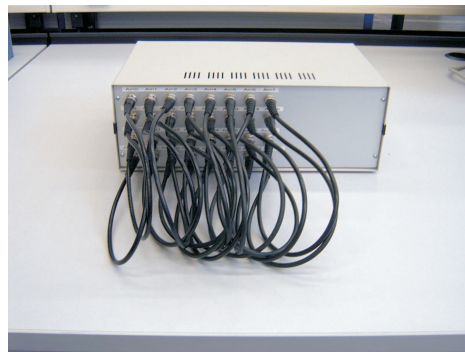
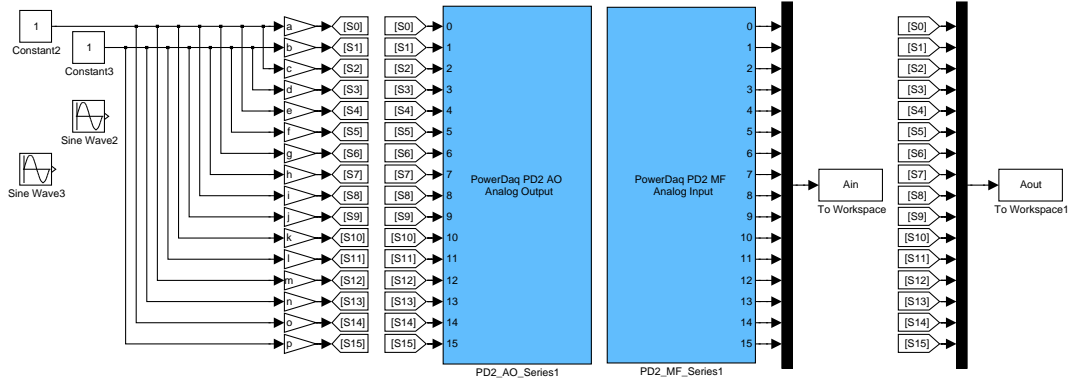

Figure 3.1: Custom made Connector Box for the PowerDAQ boards.
Figure 3.2: Simulink model used in the experiments.
In the file `Total.mdl`, which can be found in the `16AI_16AO_DACS.zip` archive, there is an Analog In and Out block. The blocks contain the S-function device drivers and are shown in figure 3.2. Used together with the two PowerDAQ boards and the custom made Connector Box in figure 3.1, up to 16 channels Analog In and 16 channels Out can be read/send.
To give an idea of what the DACS is capable of, in this chapter the performance is evaluated by means of experiments. Before any experiment can begin, a Connector Box (CBox) has to be connected. The CBox has 16 coaxial female connectors for Analog In and 16 for Analog Out. They are all connected in single-ended mode to the PowerDAQ boards in the PC. To accommodate the experiments, the Analog In channels are connected to the Analog Out channels, see figure 3.1
In Simulink the two S-function board driver blocks are put together in one model (figure 3.2). The model can easily be adjusted to put a sine wave or a constant signal on the analog outputs. These signals can be the same for all channels or can have a small amplitude difference. The analog input values from the CBox inputs can be compared with the original signals. Both send and acquired data is saved to the workspace for further calculations.
- Configure the model in figure 3.2 according to the set of channels.
- Configure the model in figure 3.2 according to the set of channels and the desired sample rate.
Still it may be clear that the errors are considerable and increasing with the amplitude of the signals. First of all, the direct connection of the input and output as depicted in figure 3.1 may cause ground-loops. This could be the reason for the large amount of noise on even small amplitude signals.